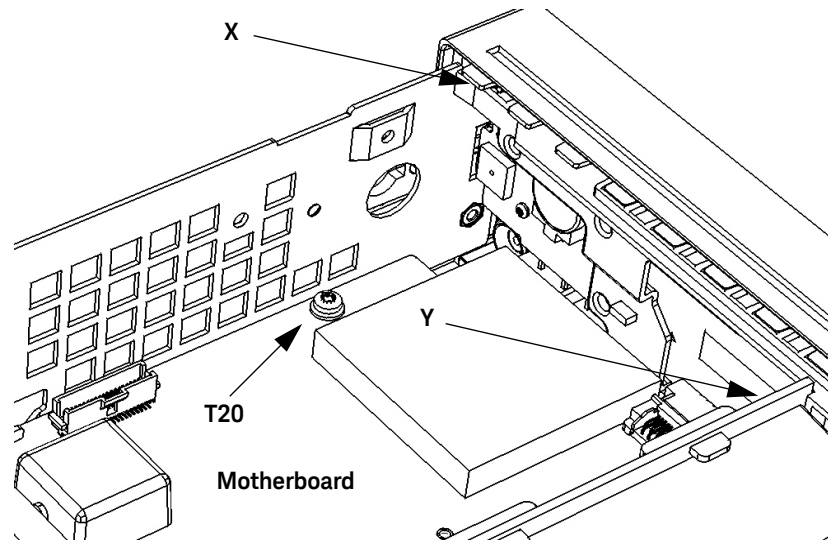

Figure 3-8 Front panel removal
- 9 Turn the counter chassis upright and position the counter as shown in Figure 3-8.
- 10 Remove the T20 TORX screw on the front left-hand side of the motherboard as shown in Figure 3-8.
- 11 With your right hand, press in on the plastic tab (X on Figure 3-8) at the top left front of the front panel, while at the same time, use your left hand to press in on the front of the left-hand aluminum chassis side-panel, so that the front of the side-panel overlaps the depressed tab and keeps it depressed. The left front standoffs should now be free of their holes.
- 12** On the middle front right-hand side of the front panel, pull the plastic tab (Y on Figure 3-8) carefully toward the rear of the chassis and simultaneously press in on the right side panel of the aluminum chassis until the front panel is partially released. The right front standoffs should now be free of their holes.